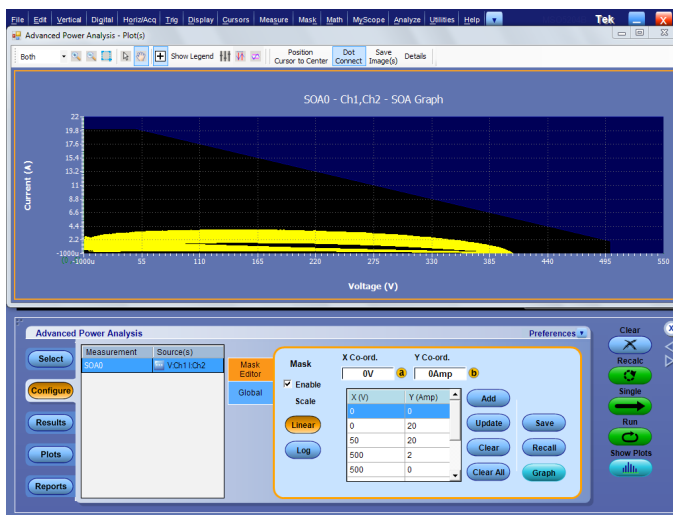

FIGURE 14. Safe Operating Area analysis of the switching MOSFET.
As shown in Figure 14, the top of the mask is set to the absolute maximum drain current (I_{Dmax}), the right side is set to the drain-to-source breakdown voltage (V_{DS}), and the angled side is set to the absolute maximum power dissipation (PD). The SOA plot provides a simple visual indication of margin as the power supply is tested over its full operating range. In this test, the switching device is operating well within the safe operating area. For more on Safe Operating Area, read *“Performing Safe Operating Area Analysis on MOSFETs and Other Switching Devices with an Oscilloscope”*, available for download on Tek.com.